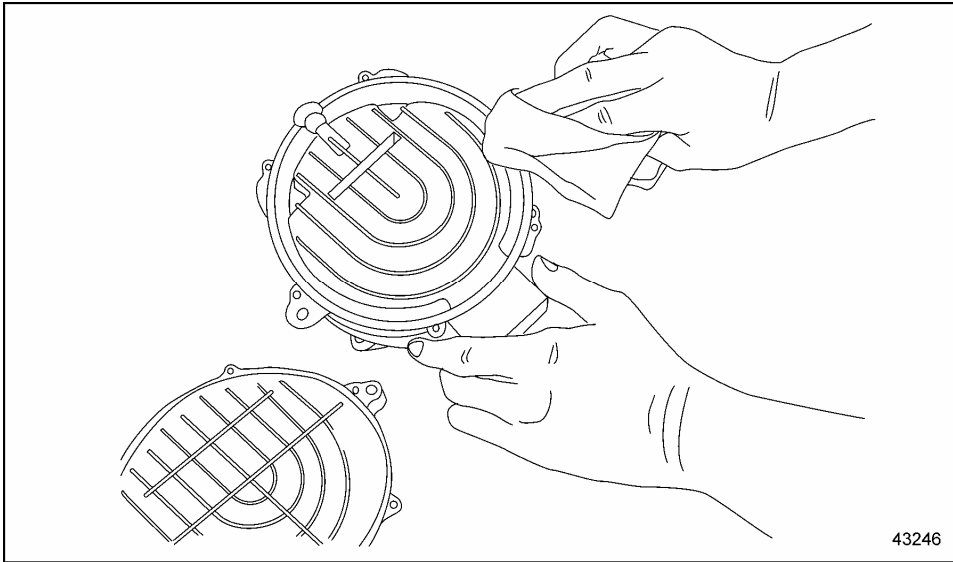

Figure 2 Clean Regulator Cover and Body Mating Surfaces
4. Remove the gasket and all residual gasket or sealing material from the regulator cover and body. Clean mating surfaces with pure mineral spirits and wipe dry. See Figure 2.